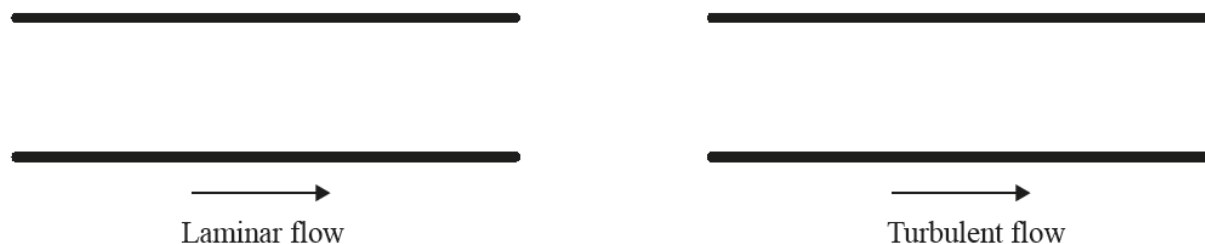

Fig. 6
- (b) Fig. 6 shows the cross section of two pipes. Sketch diagrams on Fig. 6 to show laminar and turbulent flow through the pipes.